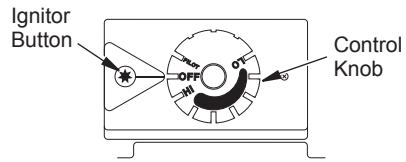

Figure 30 - Control Knob In The OFF Position
4. Wait five (5) minutes to clear out any gas. Then smell for gas, including near the floor. If you smell gas, STOP! Follow "B" in the safety information above. If you don't smell gas, go to the next step.
5. Turn control knob counterclockwise to the PILOT position. Press in control knob for five (5) seconds (see Figure 30).